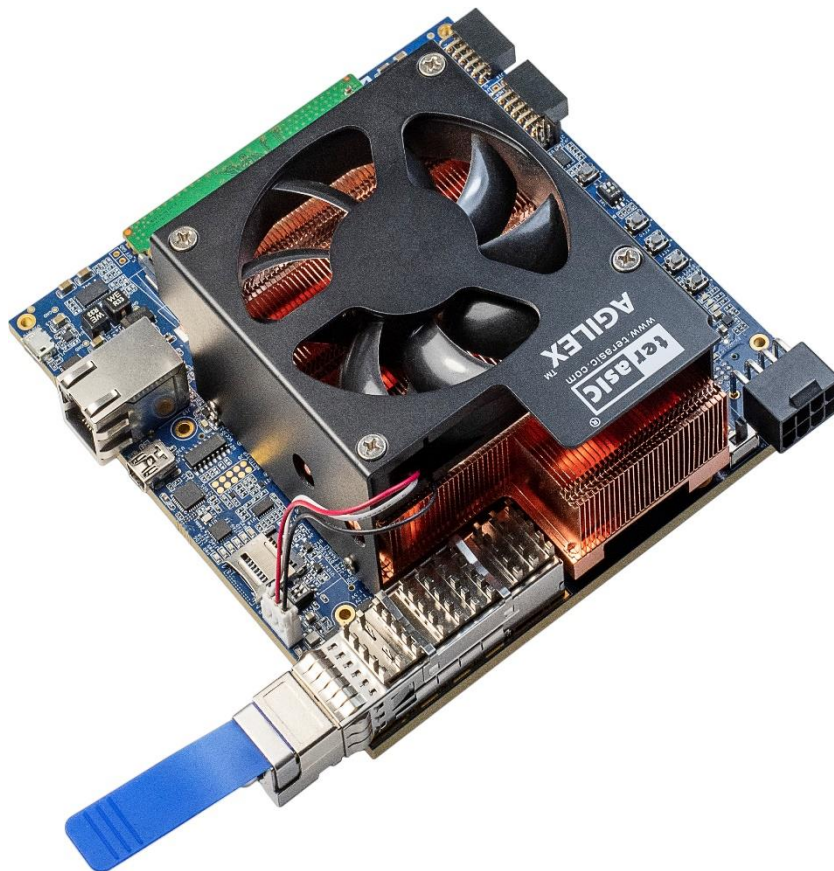

Figure 2-27 Setup QSFP28 loopback fixture
7. Insert a QSFP28 loopback fixture into the QSFP28 port on the Apollo-Som board, as shown in **Figure 2-27**.